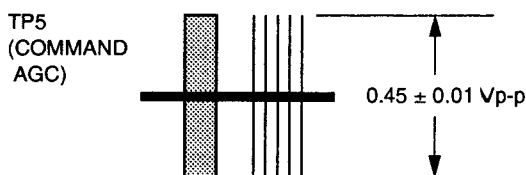

Fig. 4-2-10
- Adjust VR4 so that the Command level of the first AGC signal becomes  $0.45 \pm 0.01 \text{ Vp-p}$  as shown in the Fig. 4-2-10.